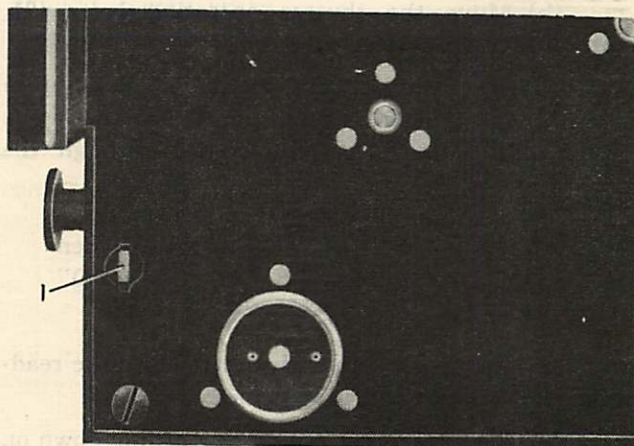

Figure 11—Location of Magazine Locking Lever
(a) Remove the film chamber. Note the reading on the camera footage indicator dial. Push in on the magazine locking lever (1, figure 11) to release the mechanism and hold the starting button in until the motor stops. Reset the footage indicator dial and replace the film chamber.
(1) Remove the film chamber from the camera. Note the reading on the camera footage indicator. Push in on the end of the magazine locking lever (1, figure 11) and press the starting button. Release the button when the frame counter dial approaches the desired position. Use the "SINGLE-FRAME" release to bring the desired number in line with the pointer.
(2) Return the camera footage indicator dial to the reading it had before the film chamber was removed. Replace the film chamber.
(3) A simplified method for returning the frame counter to the starting point of an exposure, is as
(e) Run down the camera by pushing down on the magazine locking lever (1, figure 11) and pressing the starting button until the motor stops.